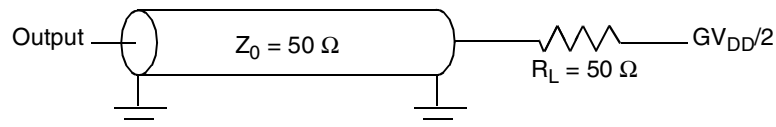
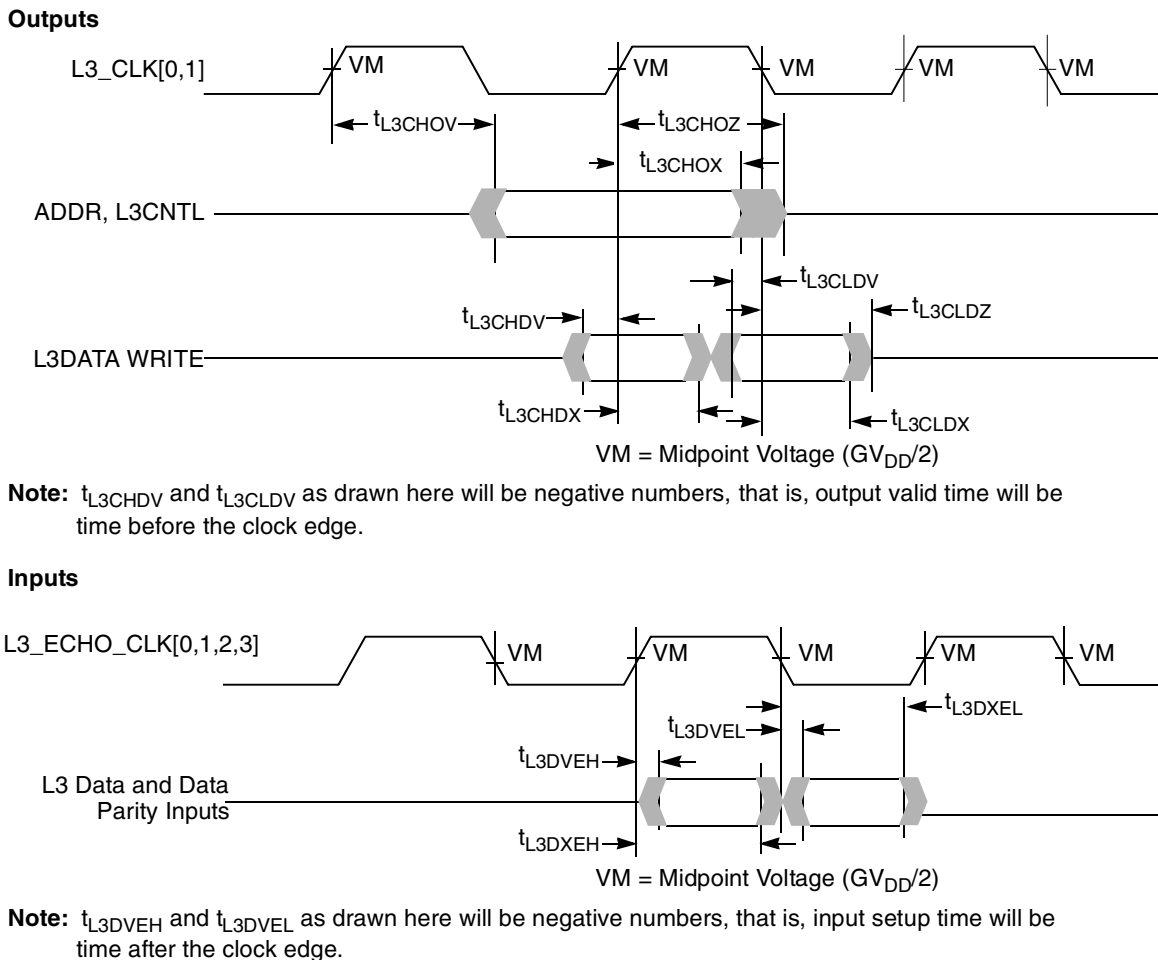
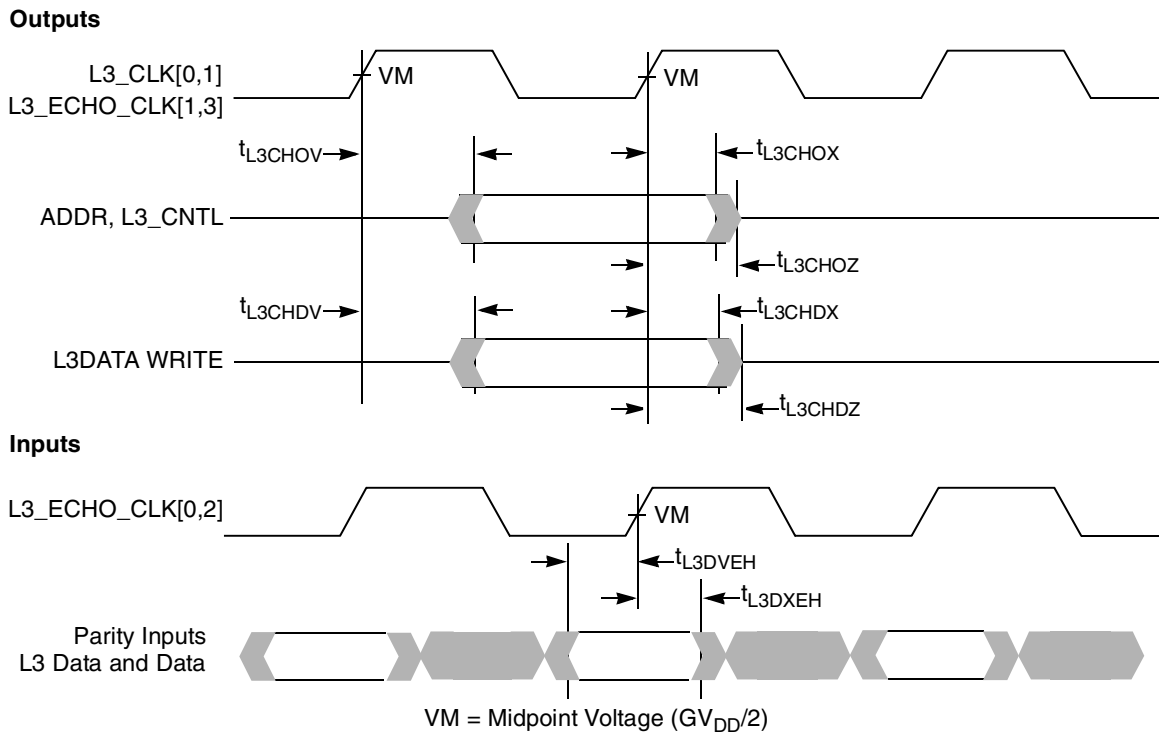

Figure 8. AC Test Load for the L3 Interface
Figure 10. L3 Bus Timing Diagrams for L3 Cache DDR SRAMs
Figure 12. L3 Bus Timing Diagrams for Late Write or PB2 SRAMs
- For high speed operations, L3 interface address and control signals should be a ‘T’ with minimal stubs to the two loads; data and clock signals should be point-to-point to their single load. Figure 8 shows the AC test load for the L3 interface.
Table 12 provides the L3 bus interface AC timing specifications for the configuration as shown in Figure 9, assuming the timing relationships shown in Figure 10 and the loading shown in Figure 8.
2. For DDR, all input specifications are measured from the midpoint of the signal in question to the midpoint voltage of the rising or falling edge of the input L3_ECHO_CLK_n (see Figure 10). Input timings are measured at the pins.
3. For DDR, the input data will typically follow the edge of L3_ECHO_CLK_n as shown in Figure 10. For consistency with other input setup time specifications, this will be treated as negative input setup time.
5. All output specifications are measured from the midpoint voltage of the rising (or for DDR write data, also the falling) edge of L3_CLK to the midpoint of the signal in question. The output timings are measured at the pins. All output timings assume a purely resistive 50-Ω load (see Figure 8).
6. For DDR, the output data will typically lead the edge of L3_CLK_n as shown in Figure 10. For consistency with other output valid time specifications, this will be treated as negative output valid time.
Figure 10 shows the L3 bus timing diagrams for the MPC7455 interfaced to MSUG2 SRAMs.
Table 13 provides the L3 bus interface AC timing specifications for the configuration shown in Figure 11, assuming the timing relationships of Figure 12 and the loading of Figure 8.
2. All input specifications are measured from the midpoint of the signal in question to the midpoint voltage of the rising edge of the input L3_ECHO_CLK n (see Figure 10). Input timings are measured at the pins.
3. All output specifications are measured from the midpoint voltage of the rising edge of L3_CLK n to the midpoint of the signal in question. The output timings are measured at the pins. All output timings assume a purely resistive 50-Ω load (see Figure 10).
Figure 12 shows the L3 bus timing diagrams for the MPC7455 interfaced to PB2 or late write SRAMs.